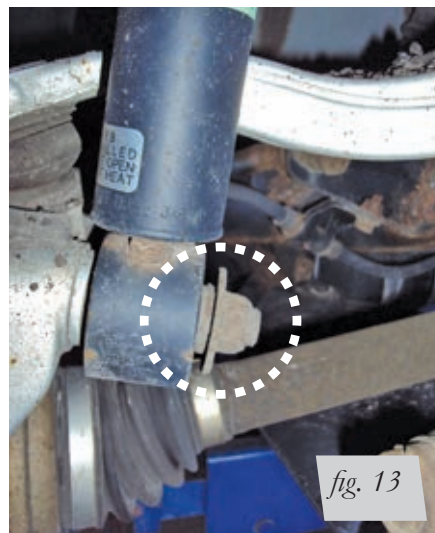

fig. 13
4. Attach the shock eye to the axle carrier (fig. 13). Do not torque the attaching bolt at this time.